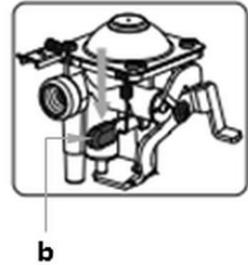

Fig. 5
- press the gas cartridge locking lever (20) to UNLOCK (14) position and remove the gas cartridge (7);
- set the rotary controller (17) to ignition (18) position to release overpressure in the valve;
- press the reset lever (b) with red rubber cap down (Fig. 5);
- set the gas cartridge locking lever (20) to FUEL LOCK (13) position;